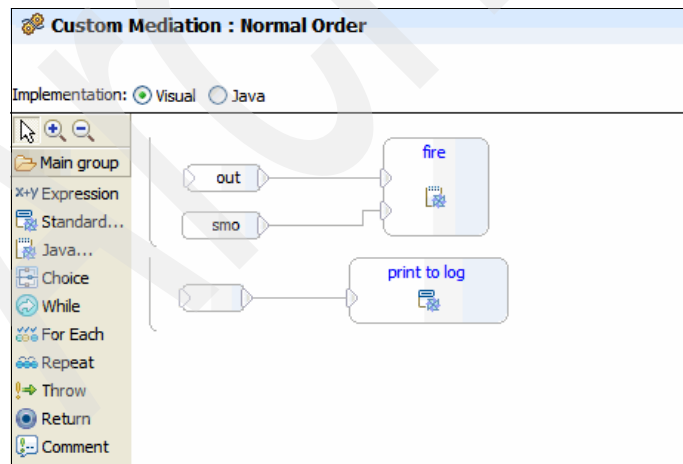

Figure 6-87 Adding the visual snippets
6. Connect the **expression** and **standard visual snippets** (Figure 6-87).